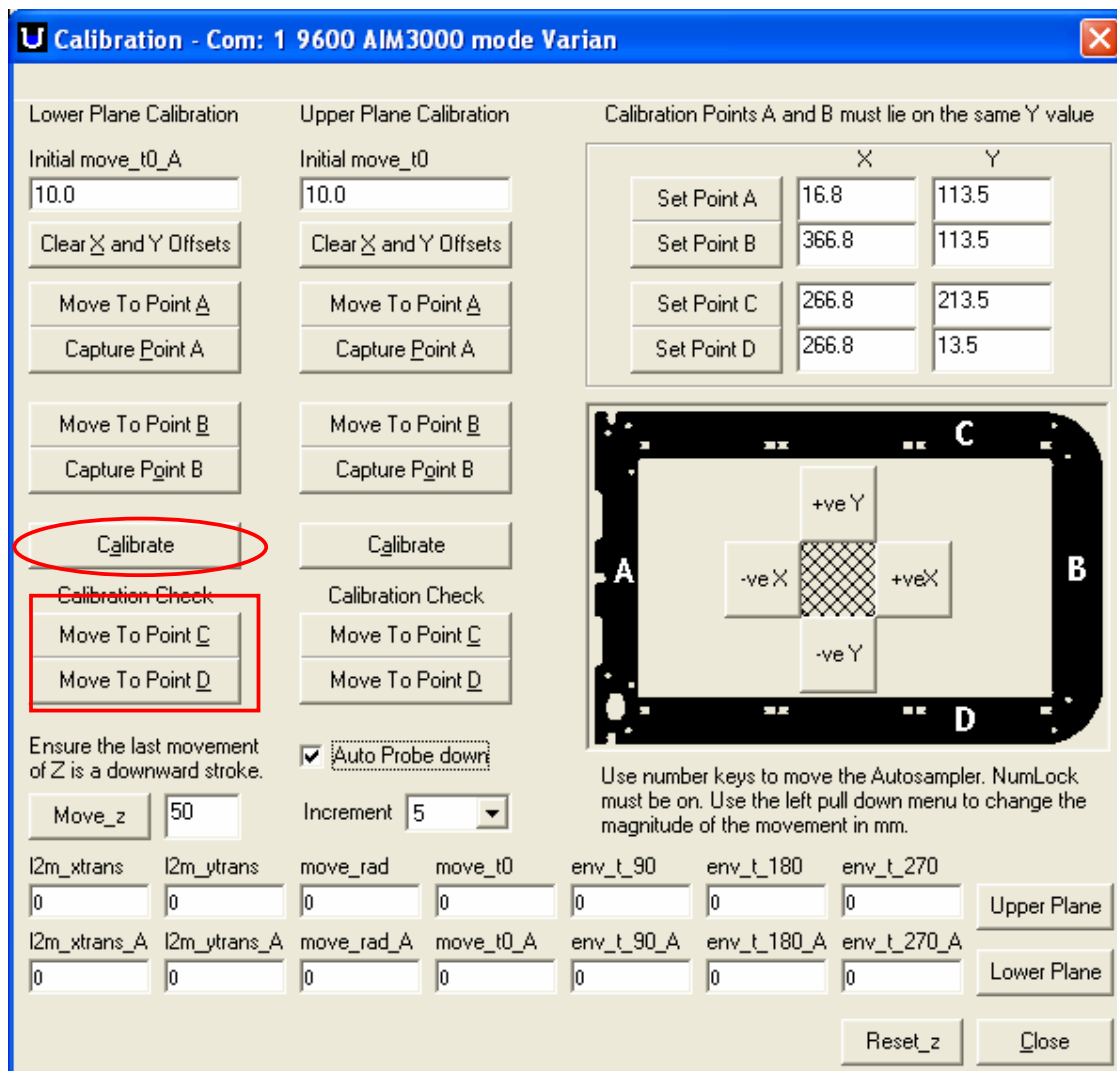

Figure 8: Calibrating and Checking the Calibration
- Once both the A and B points have been calibrated, click on the Calibrate button to lock in the calibration coordinates of the lower level plane (Figure 8)
- The Calibration can be checked by moving the probe to position C (*Move to Point C*) Figure 8. The probe should be within 1 mm of the point C. Moving the probe to position D (*Move to Point D*) will further confirm (assuming that it is also within 1 mm) that the whole lower level has been calibrated properly